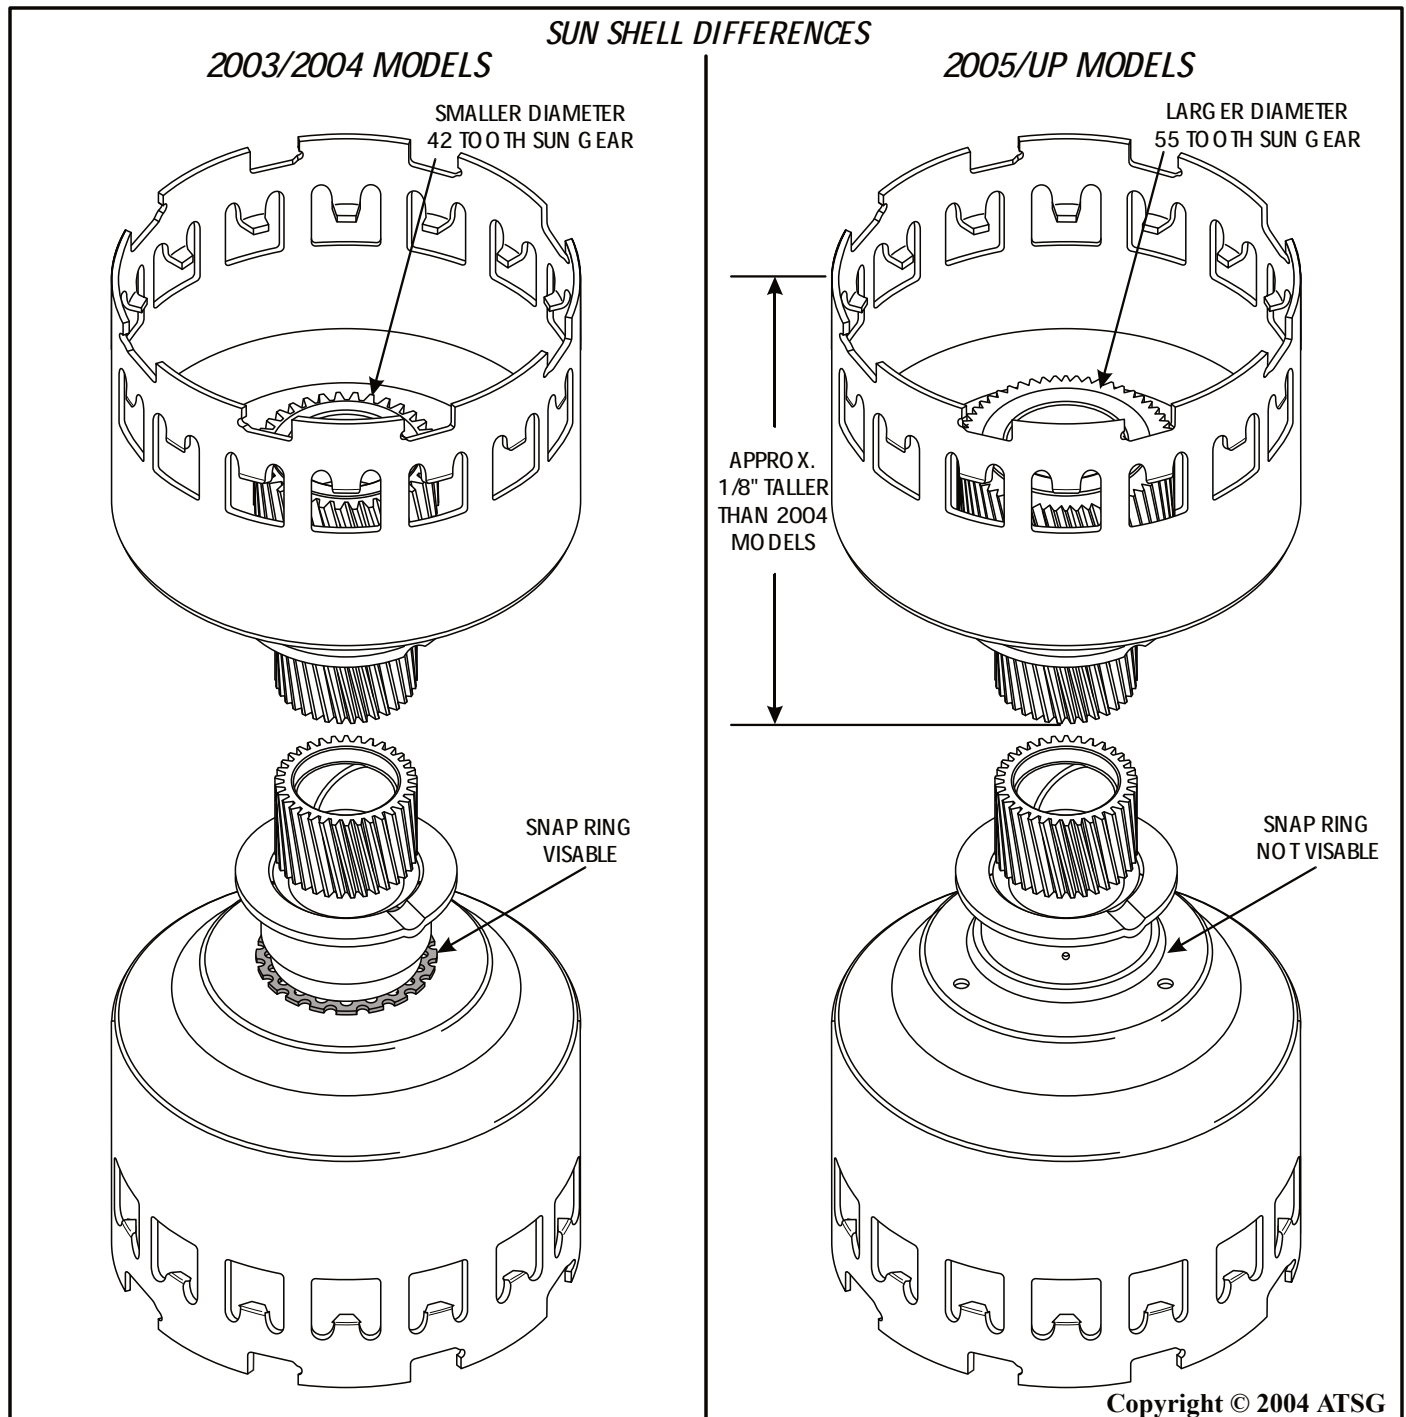

Figure 144
1. Looking at the front of the sun shell assembly it is obvious that the sun gear is larger, and tooth count has been increased to 55 teeth, as shown in Figure 144.
2. Looking at the back of the sun shell assembly you cannot see the retaining snap ring and the bearing support that is pressed onto the sun gear is different configuration, as shown in Figure 144.
3. Setting side by side the 2005 version of the sun shell assembly is approximately 1/8" taller than the 2004 version, as shown in Figure 144.